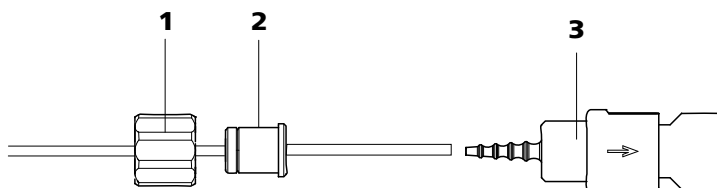

Figure 22 Install pump tubing connection with filter
- **Case A:** a 6.2744.180 pump tubing connection **with filter** (see Figure 22, page 39) or